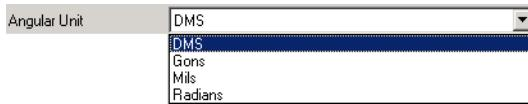

Figure 3-52. Angular Units List
- the Angular units (Figure 3-52).